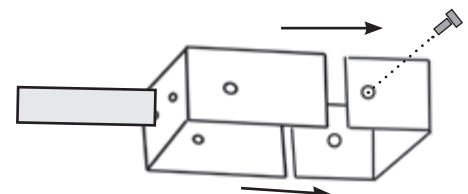

Figure 11
Raise the front of the cylinder up to the header and bolt the front U-bracket to the header U-bracket with (2) 3/8" x 1" stainless steel bolts and 3/8" flange nuts (Figure 11).